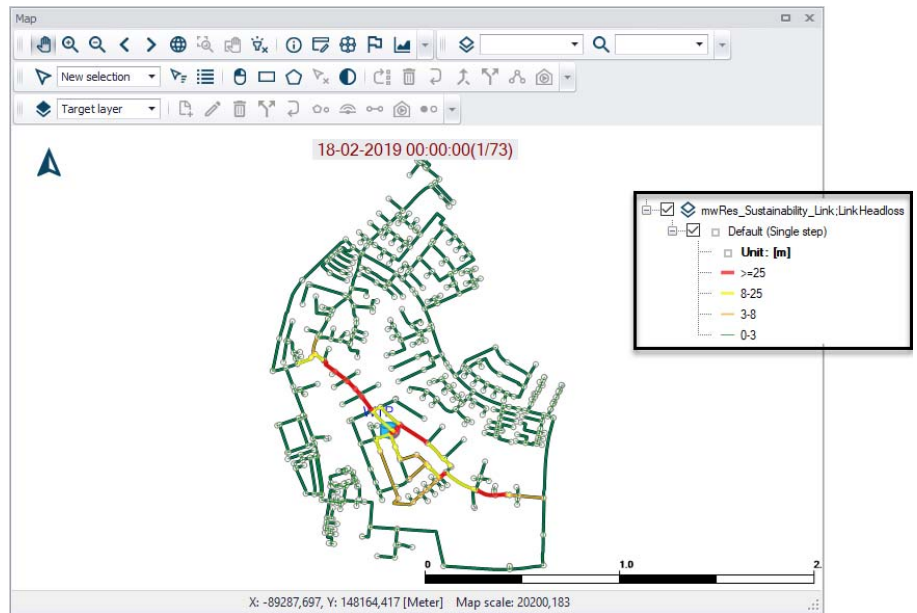

Figure 20.117 Example Sustainability Analysis Unit Head Loss results on the Map
Results from running the tool are added to the Map (Figure 20.117).
- Unit head loss: Link head loss per 1000 (see Figure 20.117)